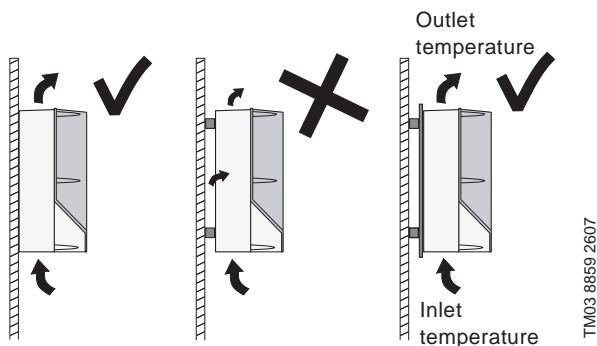

Fig. 36 CUE hung directly on the wall or fitted with a back plate
- Hang the CUE directly on the wall, or fit it with a back plate to secure sufficient air flow for cooling. See fig. 36.
ΔT is the difference between the outlet temperature and the inlet temperature (ambient) of the cooling air. See fig. 36.